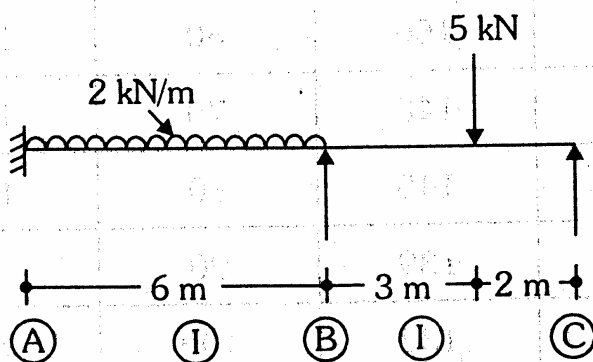

Figure 1
2. A beam ABC is loaded as shown in Figure 1. Analyse the beam to determine the support moments and reactions. Moment of inertia of both the spans is same. Draw B.M. and S.F. diagrams also.